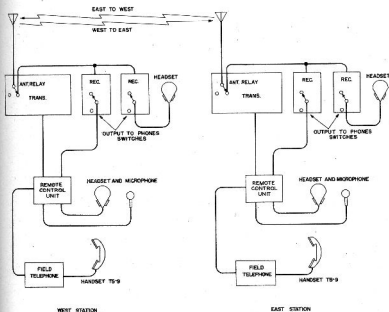

Fig. 23. Radio Set SCR-608-A: System Block Diagram
The radio set may be used in either of two communications systems: (1) radio communication only, or (2) radio-plus-wire telephone communication. In the first instance the radio equipment needs no auxiliary apparatus other than Microphone T-17, T-30, or T-35 and Headset HS-30(*), HS-18, or HS-23. In the second instance Remote Control Unit RM-29-D is used to connect a remotely located field Telephone EE-8(*) to the radio equipment. Figure 23 shows a system block diagram.